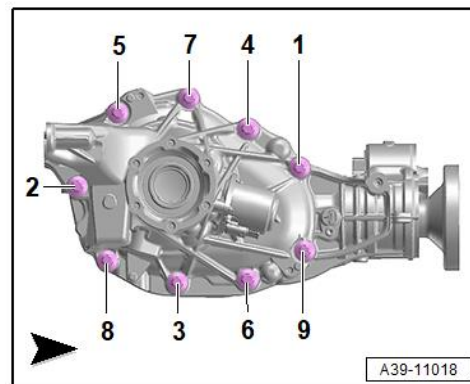

Figure 2. Case bolts.
4. Loosen the case bolts -1 to 9- and separate the housing halves saving the bolts as they will be reused for reassembly (Figure 2). Use care to not damage the sealing surfaces.